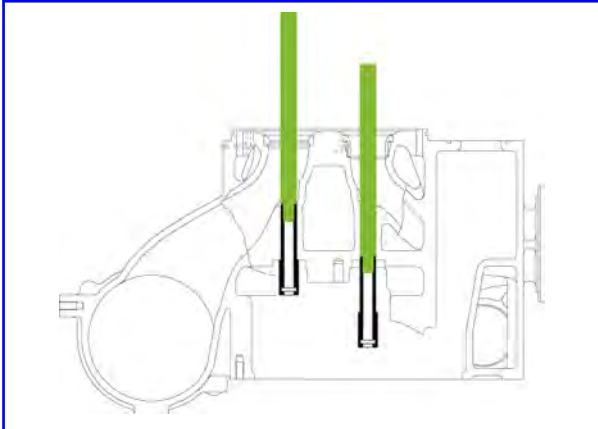

Figure 1: Dismounting of valve guide
- 1) Knock the valve guide out from the bottom of the cylinder head, by means of a mandrel, which has a shoulder turning that fits into the valve guide, see fig 1.